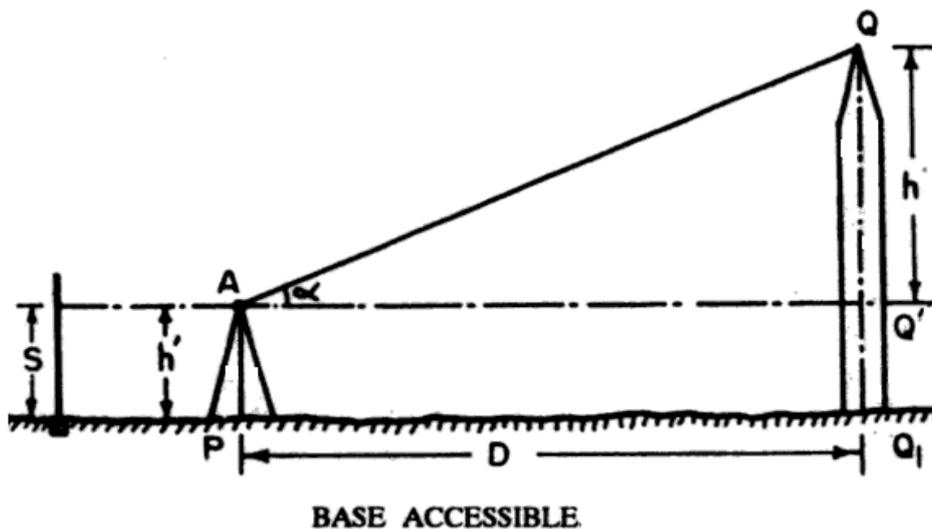

FIG 1.0
FROM FIG 1.0
9) Measure the Horizontal distance between the instrument station and the object (PQ1 – FIG 1.0)